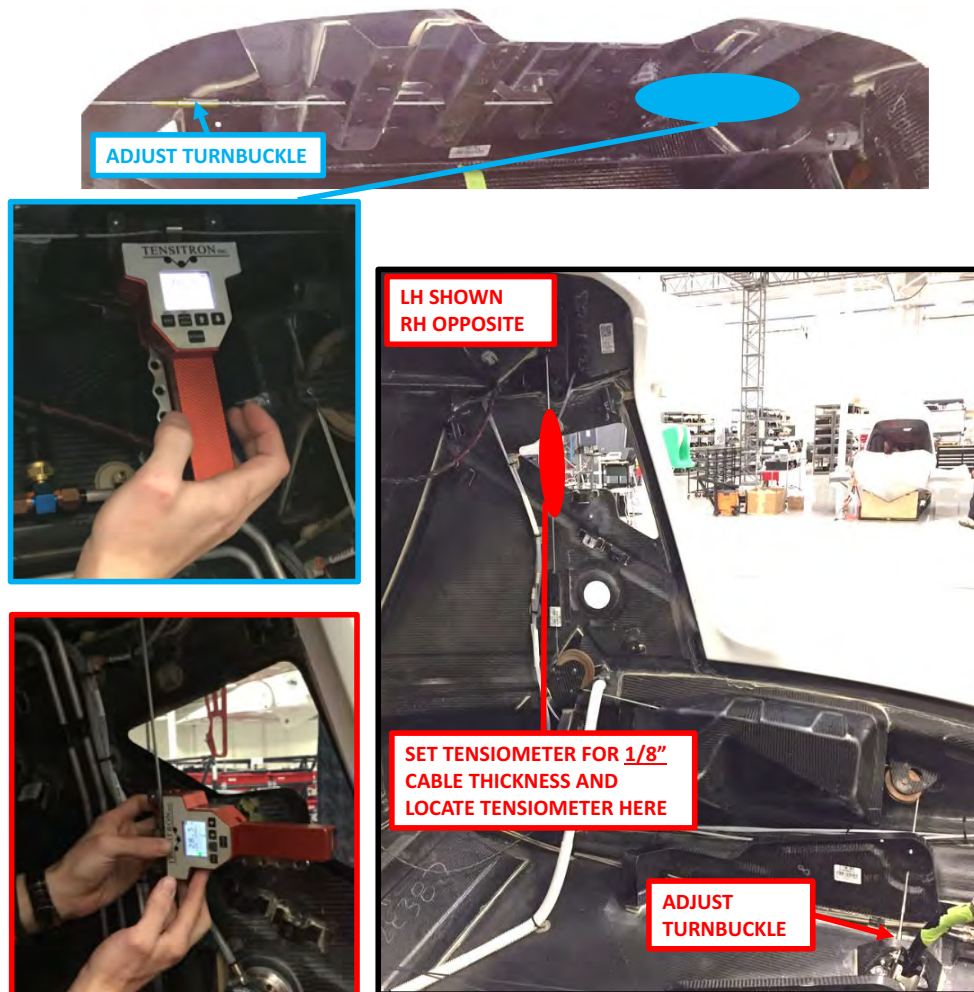

FIGURE 9-17
10. Use a tensiometer (upper cable thickness = 3/32 in, LH and RH fuselage cable thickness = 1/8 in) to rig the pilot side fuselage control cable, the copilot side fuselage control cable, and the upper control cable. Achieve the following, refer to Figure 9-17: